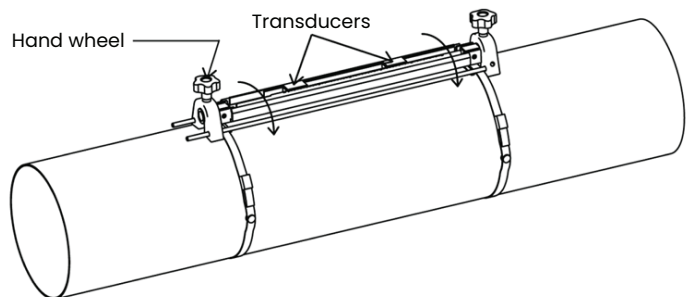

Figure 12: Transducers rotated into view
- a. Loosen both transducers and rotate the fixture so that the transducers are in view (see figure 12 below).
- a. Rotate the fixture so that the transducers are in view (see figure 12).